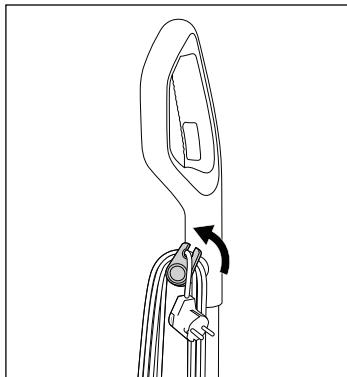

Fig. 43
- To release the appliance from the parking position, hold the foot section **③** of the appliance in place with one foot and then move the hand unit **①** backwards.
- ♦ Pull the upper cable retainer **⑯** out a little and turn it back upwards (see fig. 43).